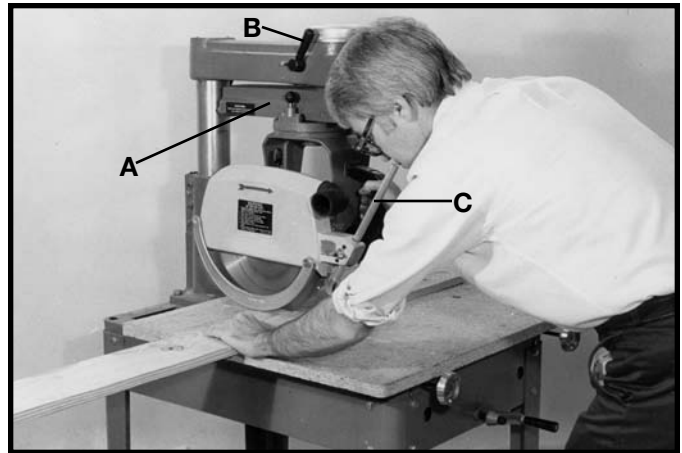

Fig. 62
When cross-cutting, the track arm (A) should be indexed at "0" and the track arm clamp handle (B) Fig. 62, tightened. The fence should be clamped between the table boards. The saw blade is to be to the left and behind the fence. The workpiece is placed on the table and butted against the fence. The saw blade should be clear of the fence and table when the machine is turned on. Then the saw blade is lowered until it lightly cuts into the table surface. The operator should position himself a little to the left of the machine for better visibility while cutting. Pull the saw blade across the work, just far enough to cut it off, and return the saw blade to its starting position. Wait for the blade to stop before touching the cut off piece. **CAUTION:** The operator must always be conscious of where his hands are; that they are clear of the blade and holding the workpiece firmly. As an added measure of operator safety, since the splitter and anti-kickback fingers are not used in the cross-cutting operation, the anti-kickback rod (C) can be turned upside down and locked in place so the rod just clears the workpiece. In this position the rod can act as
a guard from the exposed teeth of the blade. Fig. 62 shows a cross-cutting operation on a radial saw. The operator should always be sure to return the cutterhead carriage to the full rear position after each cross-cut operation.